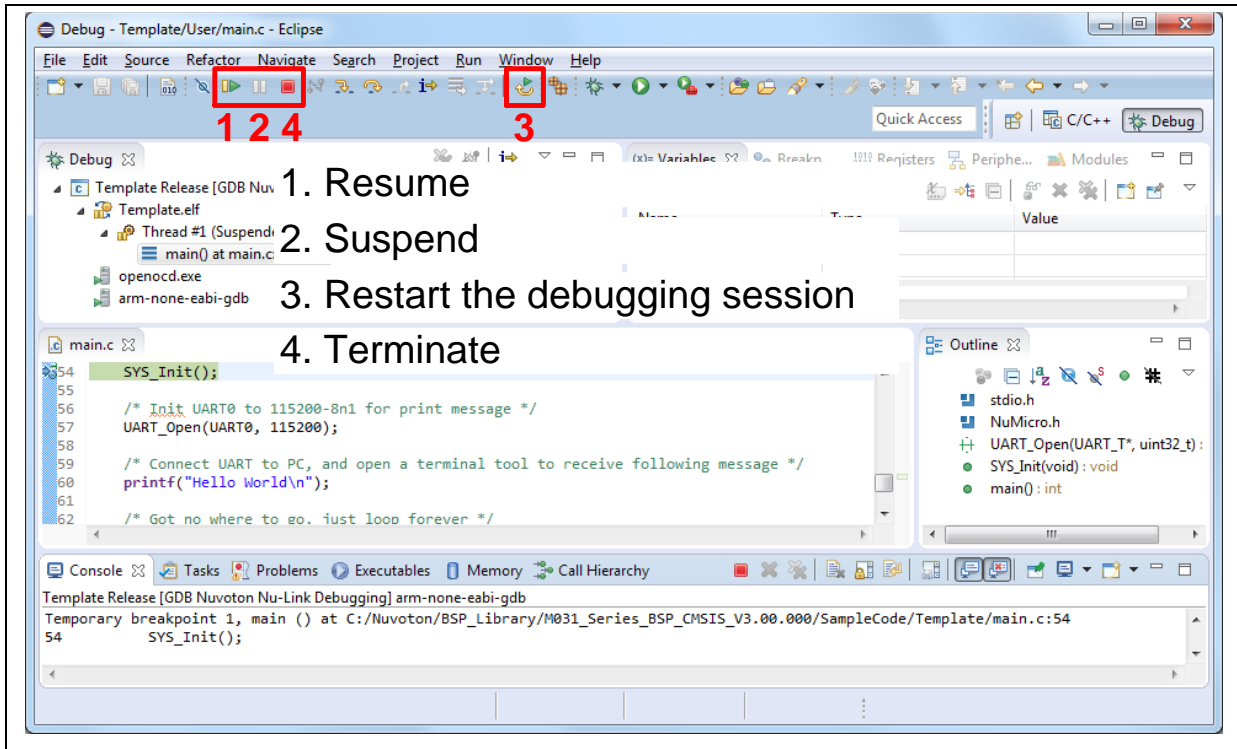
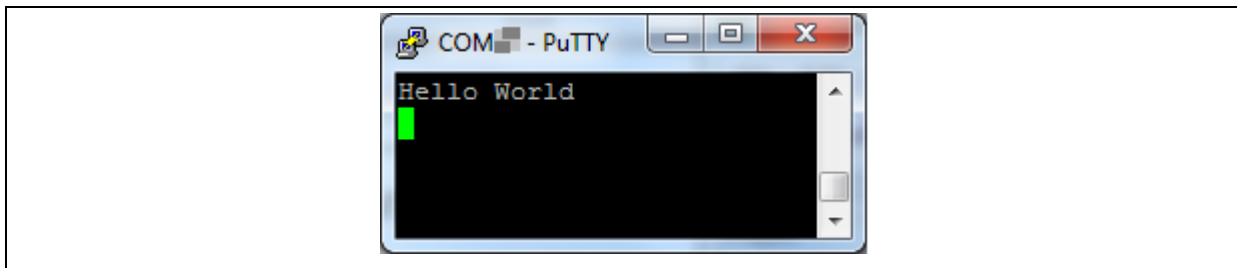

Figure 3-28 NuEclipse Debug Mode
Figure 3-29 Debug Message on Serial Port Terminal Windows
- Figure 3-28 shows the debug mode under NuEclipse. Click “Resume” and the debug message will be printed out as shown in Figure 3-29. User can debug the project under debug mode by checking source code, assembly language, peripherals’ registers, and setting breakpoint, step run, value monitor, etc. For more information about how to use NuEclipse, please refer to the NuEclipse User Manual.